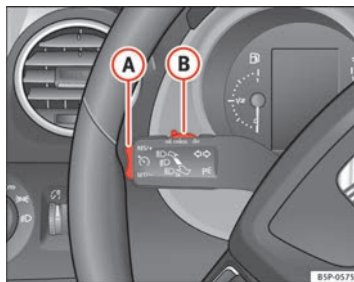

Fig. 155 Turn signal and main beam headlight lever: switch and rocker switch for the cruise control
- Press the upper part **RES/+** of the rocker switch ⇒ fig. 155 **A** to increase the speed. The vehicle will continue to accelerate as long as you keep the rocker switch pressed. When you release the switch, the new speed is stored.
Cruise control is switched off if you reduce speed by depressing the brake pedal. You can reactivate the control by pressing once on the upper part of the rocker switch **RES/+** ⇒ fig. 155 **(A)**.